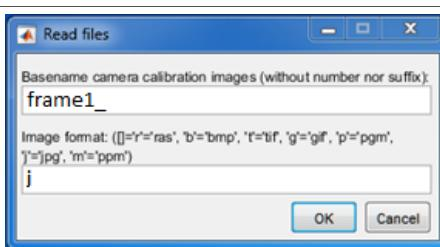

Figure 6. OCamCalib “Read files” menu
- Place the checkerboard as close to the cameras as possible (see Figure 6). It improves the calibration and helps the Automatic Checkerboard Extraction tool to find all corners. Make sure that every corner of the checkerboard is visible in each image. For the Automatic Checkerboard Extraction tool, a white border must be visible around the pattern.